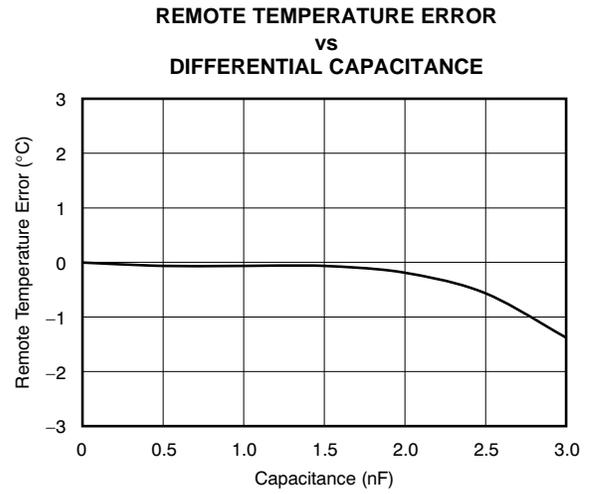

Figure 6.
(1) Diode-connected configuration provides better settling time. Transistor-connected configuration provides better series resistance cancellation.
(2) R_S (optional) should be $< 1.5\text{k}\Omega$ in most applications. Selection of R_S depends on application; see the Filtering section.
(3) C_{DIFF} (optional) should be $< 1000\text{pF}$ in most applications. Selection of C_{DIFF} depends on application; see the Filtering section and Figure 6, Remote Temperature Error vs Differential Capacitance.
(4) TMP422 SMBus slave address is `1001 100` when connected as shown.
The TMP422 tolerates differential input capacitance of up to 1000pF with minimal change in temperature error. The effect of capacitance on sensed remote temperature error is illustrated in Figure 6, *Remote Temperature Error vs Differential Capacitance*.